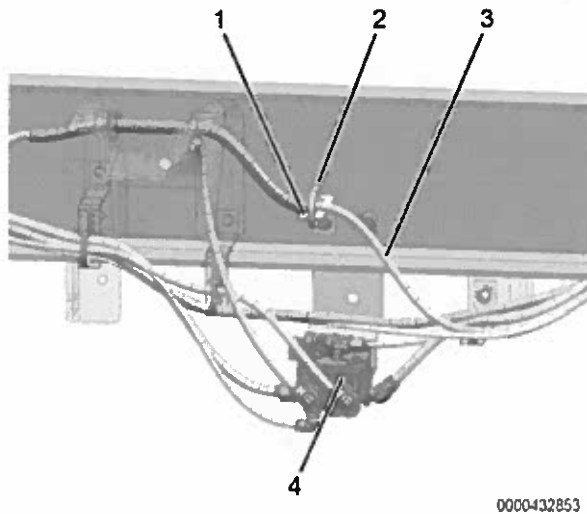

Figure 1. ATR-6 Brake Valve
5. Locate Antilock Traction Relay (ATR-6) brake valve (Figure 1, Item 4) mounted on driver-side frame rail.
6. Remove cable tie strap (Figure 1, Item 2) securing airline (Figure 1, Item 3) located just above ATR-6 brake valve (Figure 1, Item 4).
7. Remove ladder extension (Figure 1, Item 1) and save fasteners for reuse.